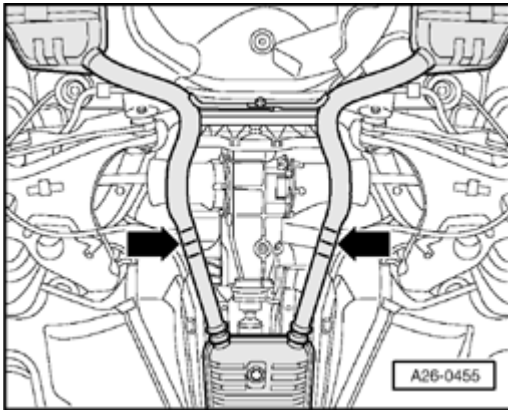

Fig. 505: Separating Exhaust Pipes At Separating Point Using Chain Pipe Cutter VAS 6254 At A Right Angle
- Separating point --> **Fig. 505**